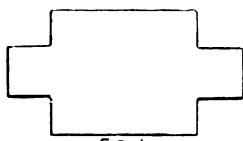
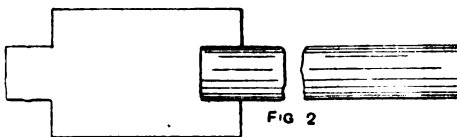

FIG 1
FIG 2
**Forging Backband Hooks for Shafts.**—The simplest way of making iron backband hooks for shafts is as follows. Take a piece of 2-in. or 2½-in. by ½-in. iron, calculate the length required to form the eye, and cut it to Fig. 1, scarfing down the ends. Get a piece of ½-in. or ¾-in. round iron, thicken the end by jumping up, and weld it to the flat iron as shown by Fig. 2. Then bend